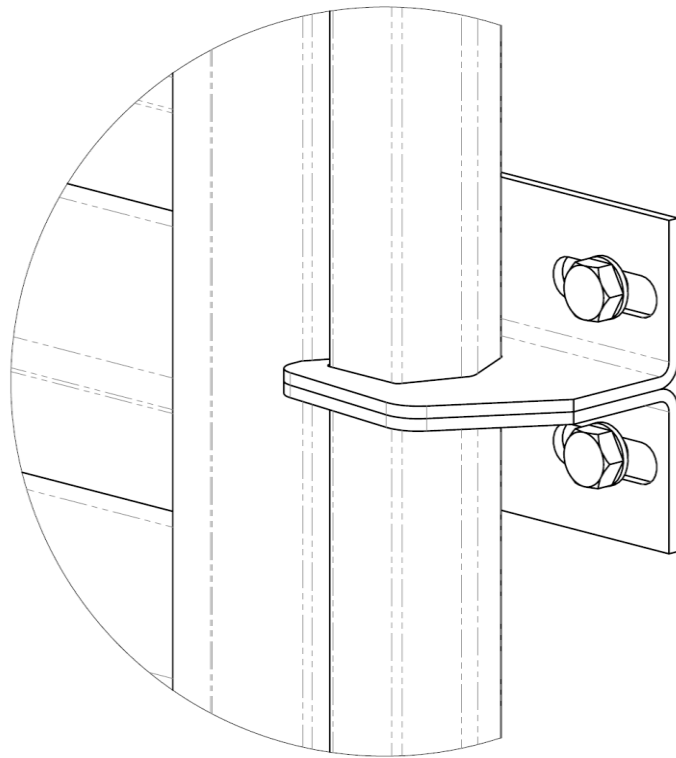

Figure 2
3. A pair of brackets is supplied for every position. There are left and right handed brackets and they should be paired as in Figure 2. To prevent the brackets twisting on the bolts when under extreme wind load, the brackets must be positioned back-to-back.